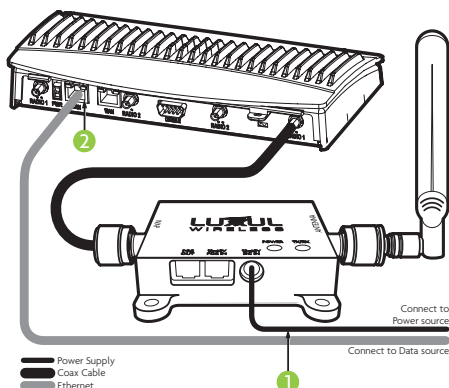

Figure 5
Connect your Data source Ethernet cable to the LAN port on the back of your Motorola AP-5131, (Figure 5) ②. Connect the 48V AC-DC power supply to the Signal Booster (Figure 5) ①. Plug the Signal Booster power supply into your 100-240V compatible power source.